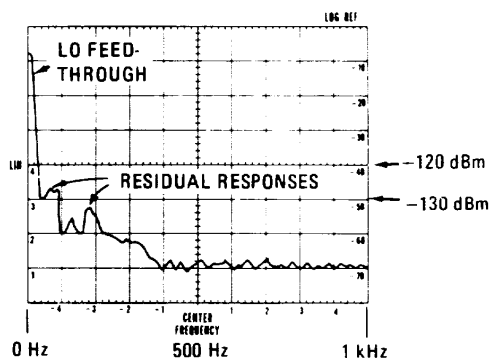

Figure 4-6. Residual Responses Display
2. Using FREQUENCY and FINE TUNE, tune LO feedthrough (0 Hz) to far left graticule line on CRT display (see Figure 4-6).